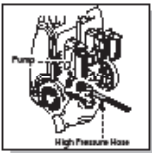

Fig. 4
- Screw the Soft PVC high pressure hose (clockwise) on the back of the unit at the bottom (Fig. 4). The end of the hose must be inserted into the water outlet far enough so the collar can thread onto the outlet threads until hand tight. Do not use pliers or vice grips to tighten. If it takes fewer than six or so turns you have not properly tightened the Soft PVC high pressure hose fitting. It is easier to position the power washer in front of you so to ensure that the threads are started correctly. Failure to properly tighten the Soft PVC high pressure hose will result in the hose slipping or popping off immediately upon turning the unit on. Do not worry about damage if this occurs -just reinstall and take extra care at screwing on the Soft PVC high pressure hose fitting.